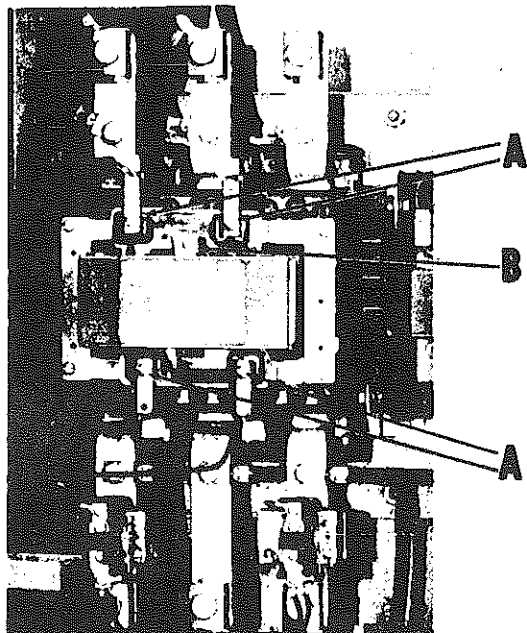

Fig. 4. Run Contactor
1. Loosen 4 coil retainer screws A Fig. 4. Press against coil and pull up and out on coil retainers Fig. 4.